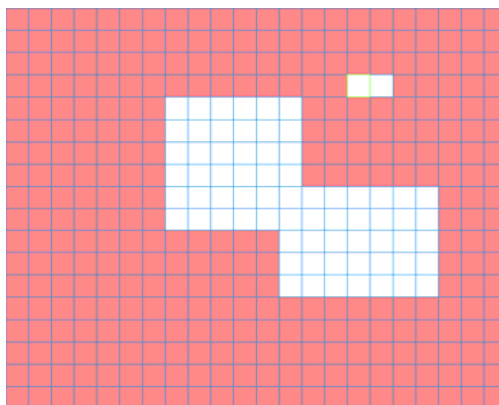

Figure 4-62
- Region: Click select button, the interface is shown as in Figure 4-62. Here you can set motion detection zone. There are 396(PAL)/330(NTSC) small zones. The green zone is current cursor position. Grey zone is the motion detection zone. Black zone is the disarmed zone. You can click Fn button to switch between the arm mode and disarm mode. In arm mode, you can click the direction buttons to move the green rectangle to set the motion detection zone. After you completed the setup, please click ENTER button to exit current setup. Do remember click save button to save current setup. If you click ESC button to exit the region setup interface system will not save your zone setup.
In Figure 4-62, you can left click mouse and then drag it to set a region for motion detection. Click Fn to switch between arm/withdraw motion detection. After setting, click enter button to exit.